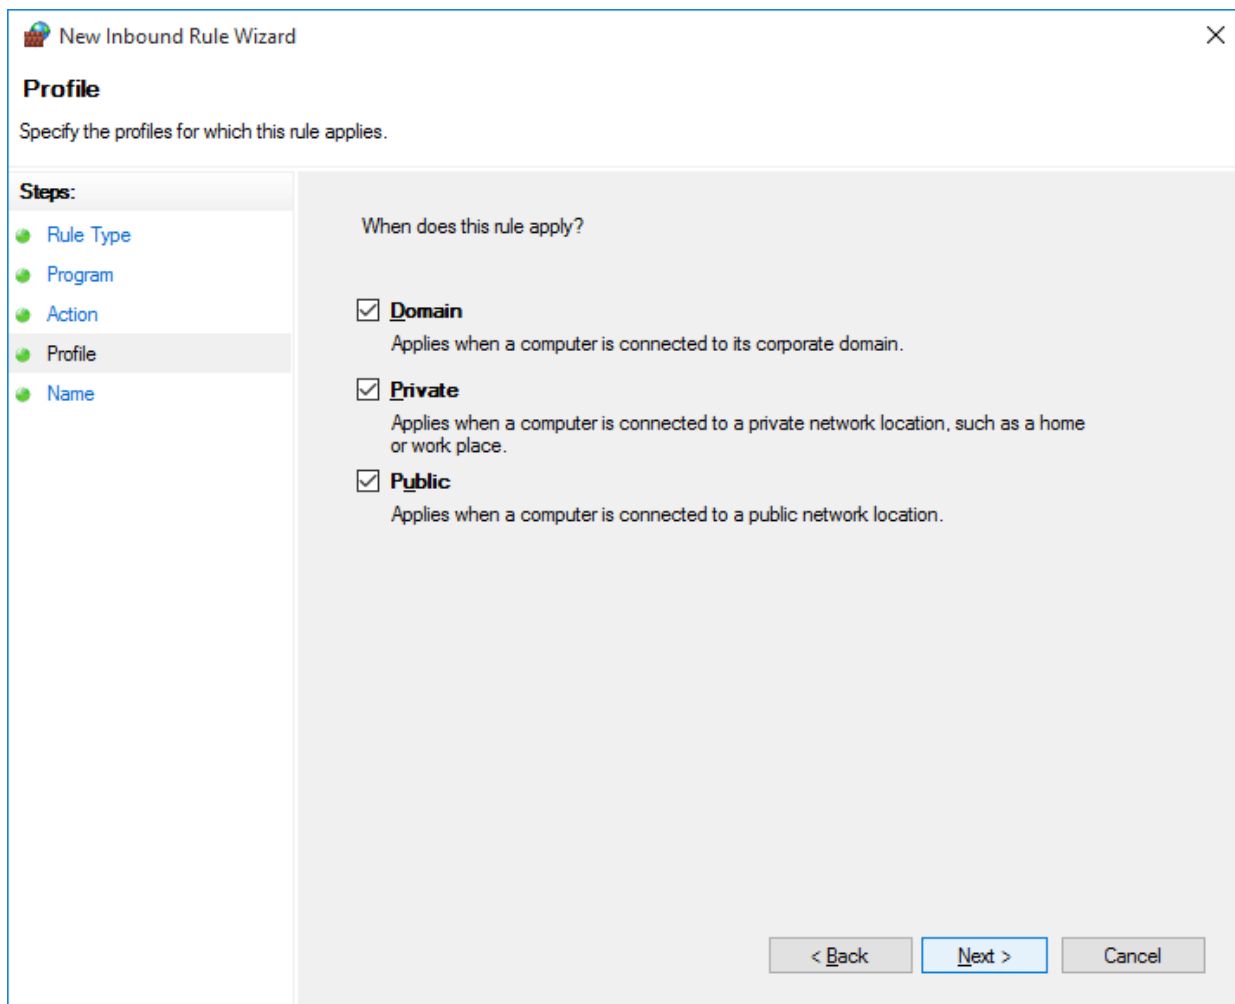

Figure 2-70. Choosing Where the Exception Applies
4. On the Profile page of the New Inbound Rule wizard, specify the cases where the DCOM port inbound rule applies. This is the same as *Figure 2-70*.
4. On the Profile page of the New Inbound Rule wizard, specify the cases where the BSIPDRV port inbound rule applies. This is the same as *Figure 2-70*.